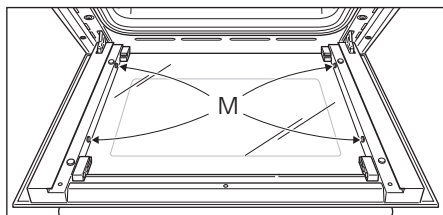

Fig. 6.22
- Check that the four rubber pads are in place (M in fig. 6.22).